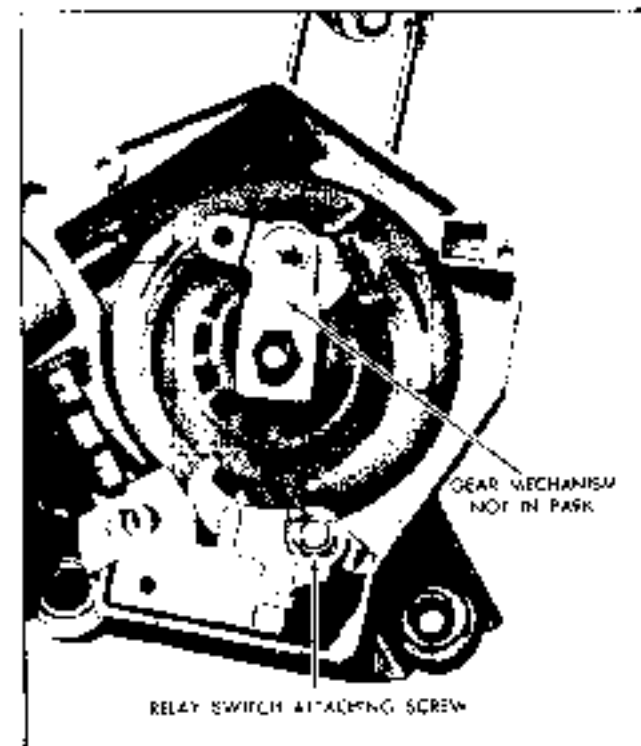

Fig. 12-34 Checking Latch Arm Switch—Partrick
2. If wiper gear drive pawl is in full park position remove gear. If wiper gear mechanism is not in park position (drive pawl away from latch arm (Fig. 12-34), proceed to step 3).
- a. Remove relay-switch attaching screw (Fig. 12-34) and carefully lift relay-switch out of gear box.
6. Install relay-switch mounting screw (Fig. 12-34).